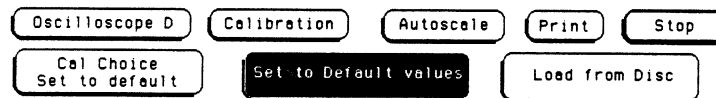

Figure 4-23. Set to Default Screen
- c. From the Set to Default screen, touch **Set to Default values**. See figure 4-23.
- c. From the Set to Default screen in figure 4-23, touch these fields in the sequence below: